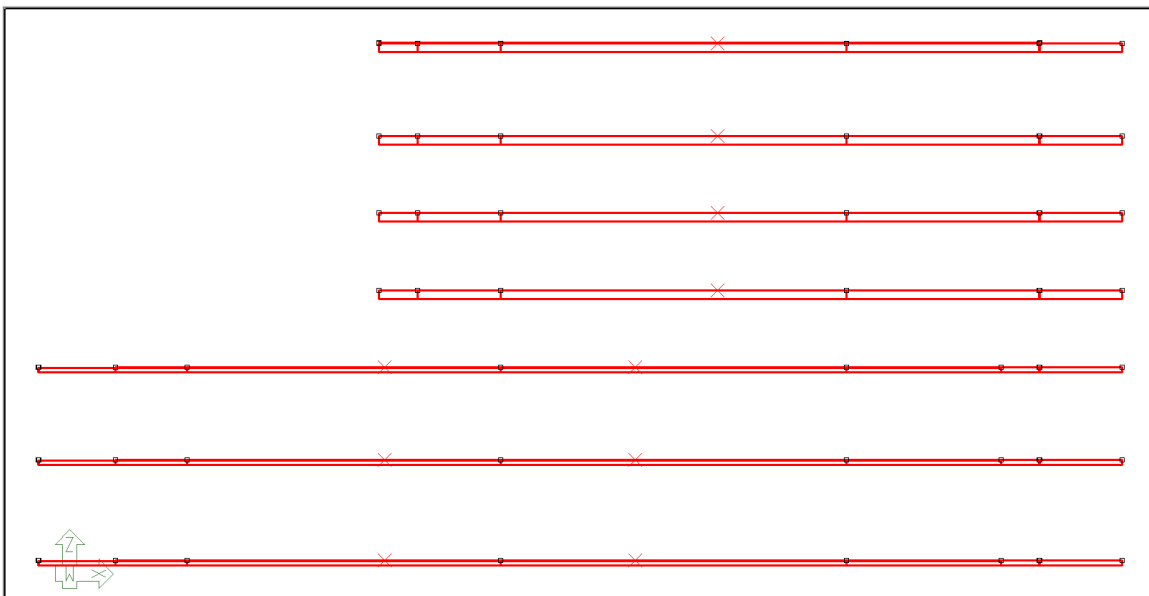

FIGURE 8-3
- Drag and select the slabs. Once the slabs are selected, they should be highlighted in a red color as shown in **FIGURE 8-3**.